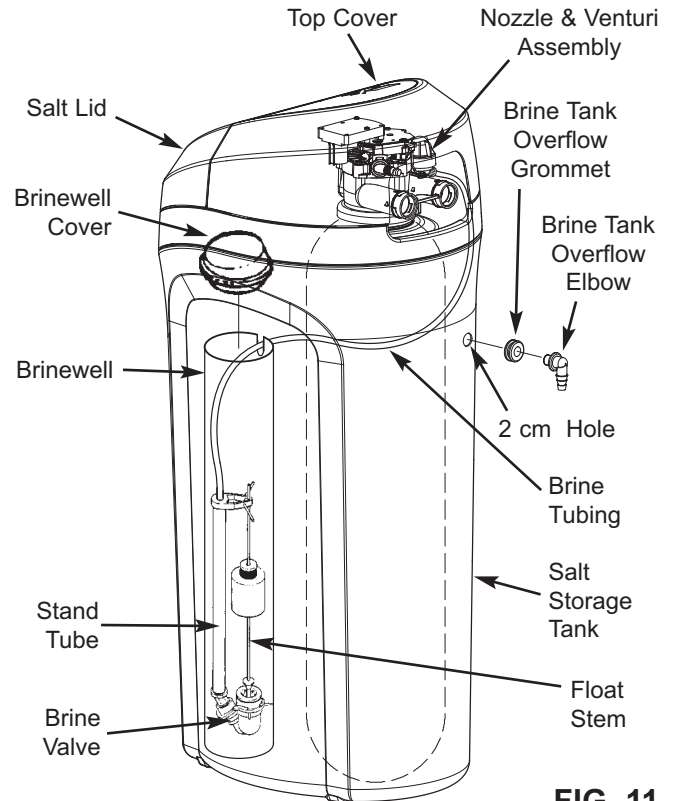

FIG. 11
1. EcoPure models are factory assembled. During installation, unsnap and remove the top cover, together with the salt lid, to expose the softener valve assembly. Set them aside to prevent damage. Check the brinewell to be sure it is secured and vertical (See Figure 11).